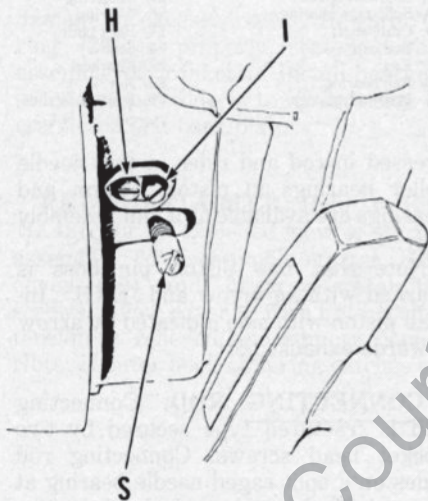

Fig. HL42-1—View showing location of idle mixture screw (I), high speed mixture screw (H) and idle speed screw (S).
Before attempting carburetor adjustments, be sure pump is primed. Initial adjustment of idle and high speed mixture screws is one turn open. Adjust idle speed screw (S—Fig. HL42-1) so engine idles at 2600-3400 rpm. Adjust idle mixture screw (I) to obtain maximum idle speed, then readjust idle speed screw so engine idles as 2600-3400 rpm.